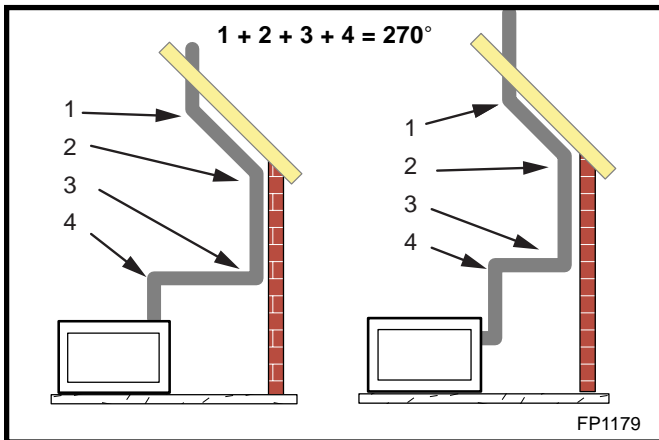

Fig. 34 Maximum elbow usage.
- Two (2) sets of 45° elbows offsets may be used within the vertical sections. From 0 to a maximum of 8' (2.5m) of vent pipe can be used between elbows. (Fig. 34)
- 7DVCS supports offsets. (Fig. 34) This application requires you to first determine the roof pitch and use the appropriate starter kit. See Venting Components List.
- The maximum angular variation allowed in the system is 270°. (Fig. 34)